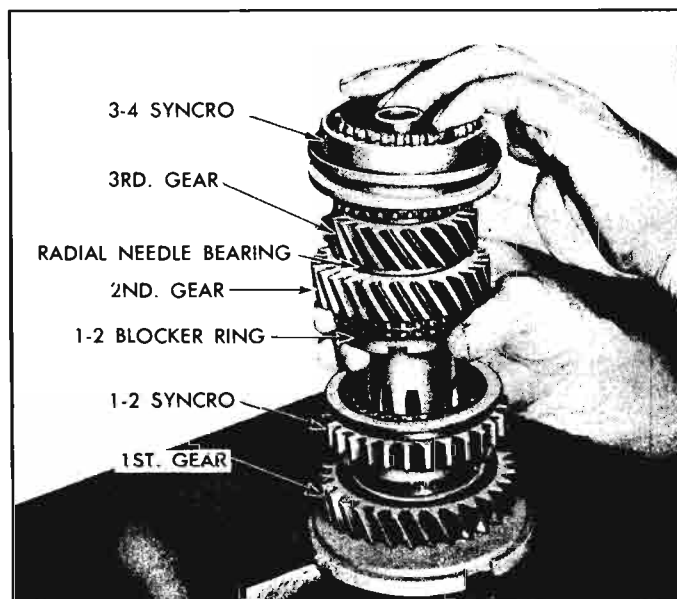

Fig. 6D-45—Installing Second Gear, Third Gear, and 3-4 Synchronizer on Mainshaft
5. Install second speed gear (fig. 6D-45) with clutching teeth toward 1-2 synchronizer, then place radial needle bearing on second speed gear.